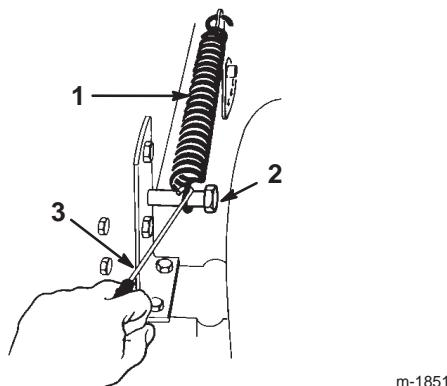

Figure 42
19. Hook the height-of-cut lift assist spring onto the retaining bolt (Fig. 42) using the spring tool provided with the tractor.